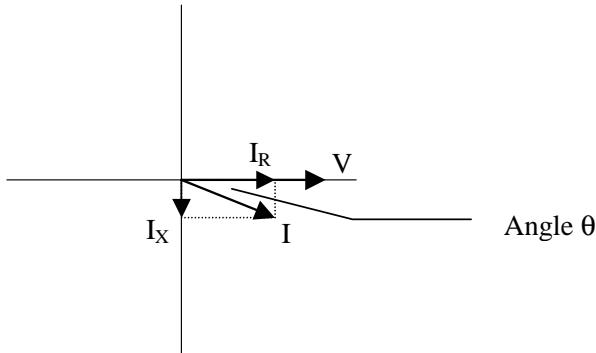

Figure 1.9: Voltage and complex current
- Real power (and energy) is the component of power that is the combination of the voltage and the value of corresponding current that is directly in phase with the voltage. However, in actual practice the total current is almost never in phase with the voltage. Since the current is not in phase with the voltage, it is necessary to consider both the inphase component and the component that is at quadrature (angularly rotated 90° or perpendicular) to the voltage. Figure 1.9 shows a single-phase voltage and current and breaks the current into its in-phase and quadrature components.
The quadrature current may be lagging the voltage (as shown in Figure 1.9) or it may lead the voltage. When the quadrature current lags the voltage the load is requiring both real power (watts) and reactive power (VARs). When the quadrature current leads the voltage the load is requiring real power (watts) but is delivering reactive power (VARs) back into the system; that is VARs are flowing in the opposite direction of the real power flow.
Displacement PF =  $\cos \theta$ , where  $\theta$  is the angle between the voltage and the current (see Fig. 1.9).